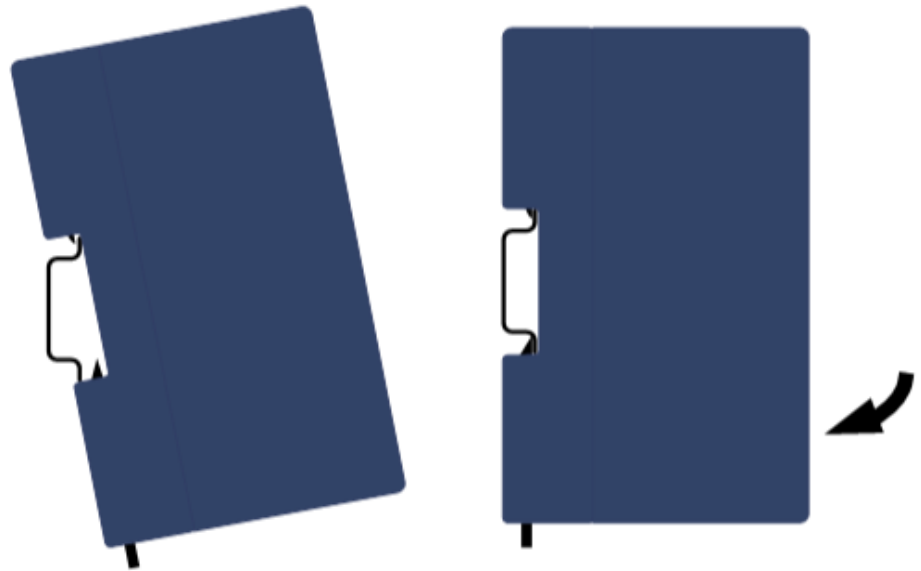

Figure 2: Snap Mount to DIN Rail
- 1) Incline Energy Pack so that top edge of plastic recess (Figure 2) engages top of DIN rail